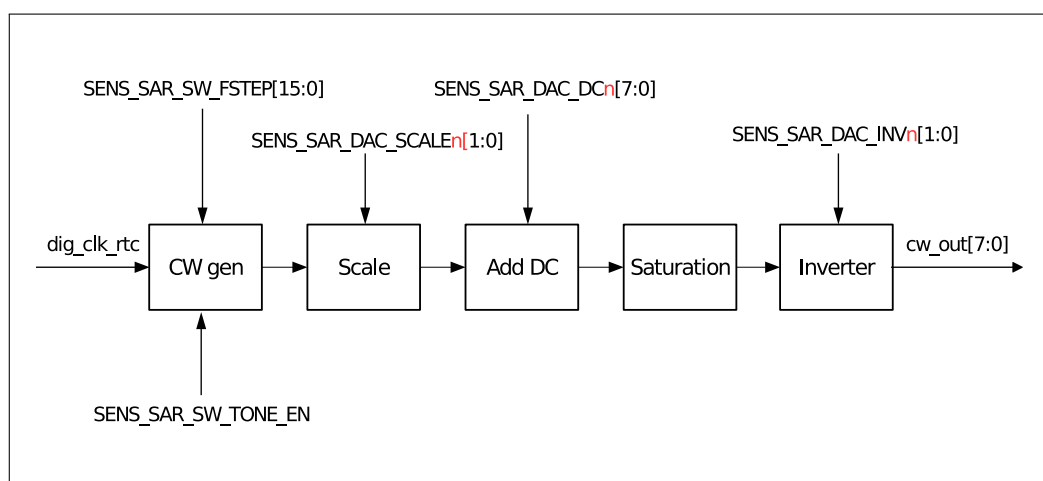

Figure 23-22. Workflow of CW Generator
The cosine wave (CW) generator can be used to generate a cosine or sine tone. Figure 23-22 shows The function of CW generator.